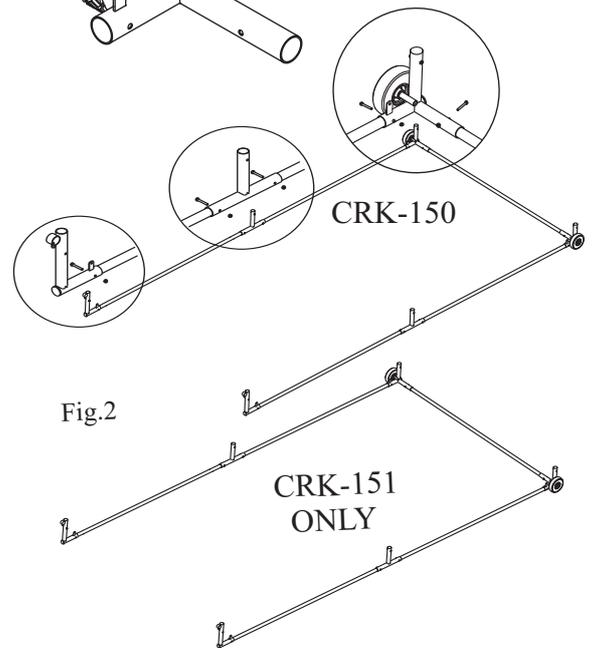

Fig.2
3 (You will need for this packs FEP602, FEP606, FEP605 and FEP608). Next put the handle to one side (the long tube with black end caps and no holes.) Assemble the side bars and back bar as shown in Fig.2, using 10 x M10 x 70mm hex bolts (17) and 10 x M10 Nylock nuts (18).